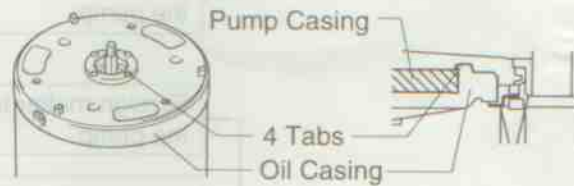

Fig. 2
(3) During the assembly of the Pump Casing, make sure to press it firmly against the contact surface. The flange portion on the inside of the Oil Casing has four tabs, as shown in Fig. 2. Make sure to firmly press the Pump Casing until it engages with those tabs.